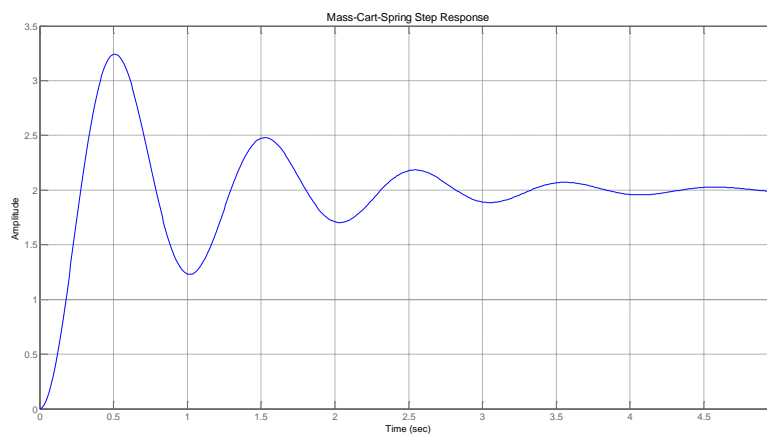

Figure 1: Mass-cart-spring underdamped step response
- a. *The waveform in Figure 1 is the unit step response for a mass-cart-spring system, estimate the peak time, damping frequency, percent overshoot, damping ratio and static gain. Write the equation, $G(s)$ that models this system.*